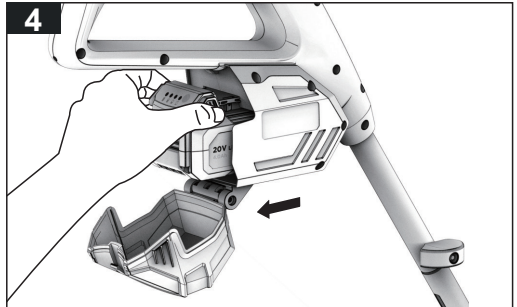

Fig. 9
- b. Depress the battery pack release button on each side and hold them down. Pull the battery pack out from the battery compartment. (Fig.9)